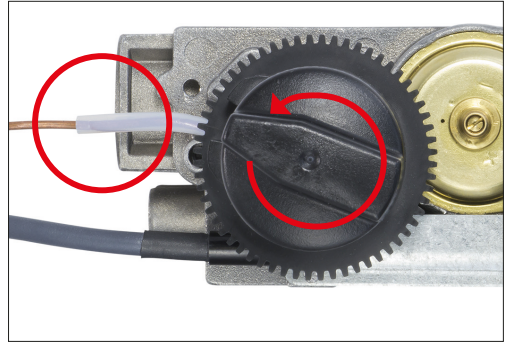

Figure 4
2. Do not crush/damage the capillary tube (see figure 4).
3. Turn the geared knob counterclockwise to the end stop position (see figure 4).